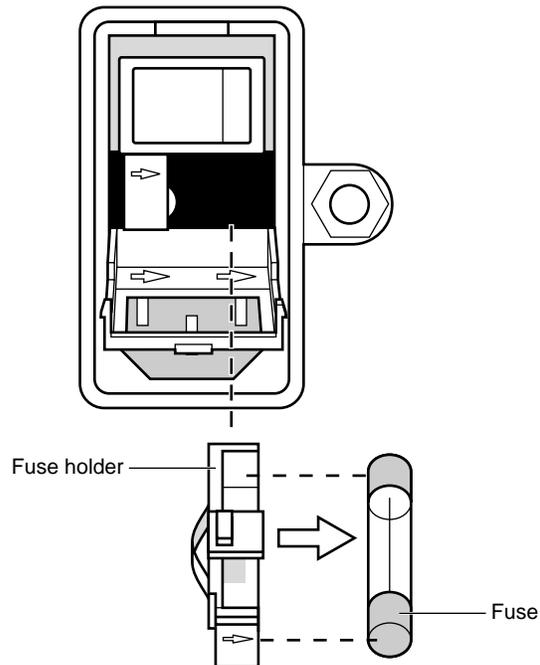

Figure 6-3: Fuse Replacement
5. Remove the fuse from the fuse holder and replace the fuse with one of the same value and rating (2.0 amp, 250 volt, slow blow, 5 x 20mm) as illustrated in Figure 6-3.